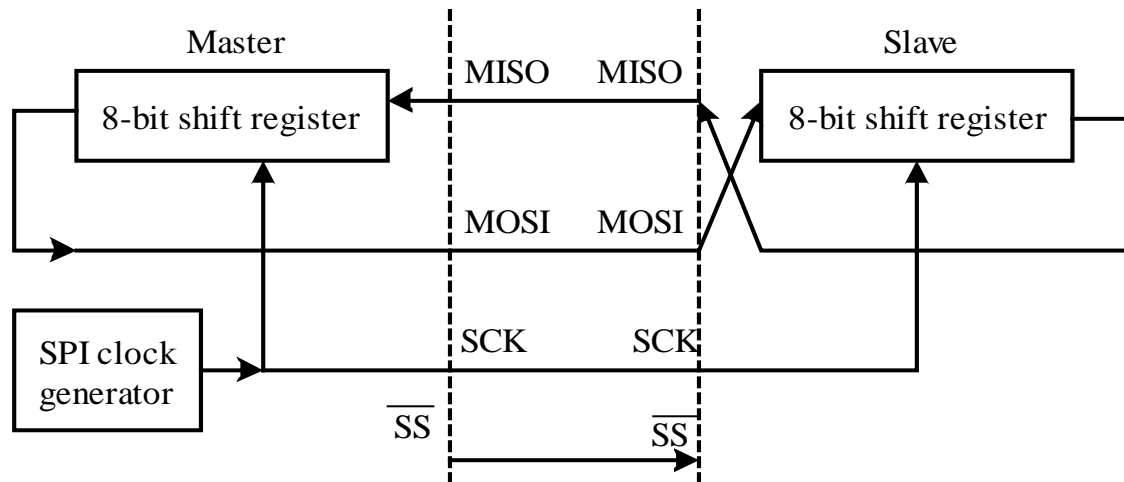

Figure 9.27 SPI master-slave interconnection
- In a single-slave configuration, the circuit would be connected as Fig.9.27. The user can set the SS output enable feature which will automatically goes low to enable the slave device before the data transfer is started.-